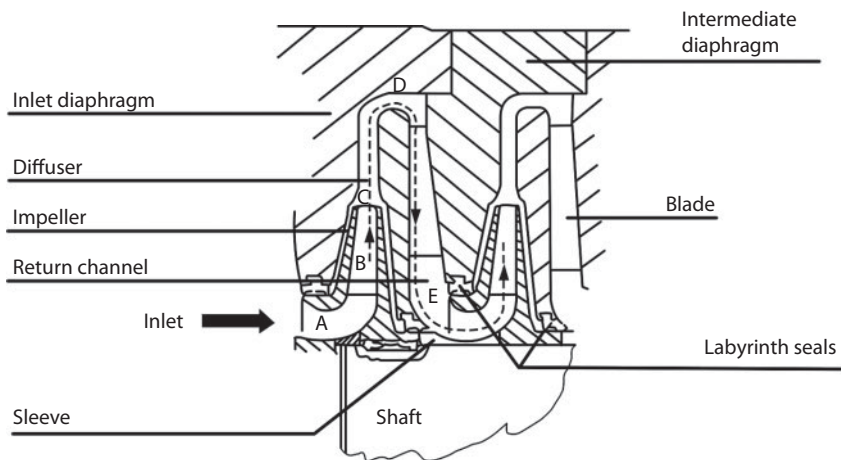

Figure 6.4 Cross section of centrifugal compressor.
Here is a brief description of what occurs inside each centrifugal compressor stage: Gas enters the eye of the impeller (A) and turns 90°, resulting in a radial flow toward the impeller's outer diameter (Figure 6.4). On its path through the impeller, the gas encounters rotating blades (B) that push the gas in a circular motion, which results in a static pressure rise due to the centrifugal force of rotation. For impellers with the typical backward-leaning blades, approximately two-thirds of